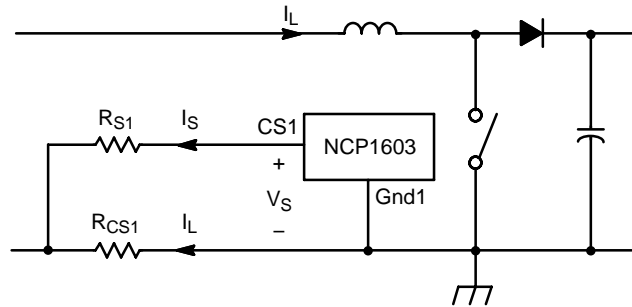

Figure 64. Current Sense in PFC Section
The PFC section senses the inductor current I_L by the current sense scheme in Figure 64. This scheme has the advantages of: (1) the inrush current limitation by the resistor, R_{CS1} , and (2) the overcurrent protection and zero current detection implemented in the same pin.
Inductor current I_L passes through R_{CS1} and creates a negative voltage. This voltage is measured by a current I_S flowing out of the CS1 pin (Pin 11). CS1 pin has an offset voltage V_S . This offset voltage is studied in the setting of zero inductor current $I_{L(ZCD)}$ and the maximum inductor current $I_{L(OCP)}$ (i.e., overcurrent protection threshold). A typical variation of offset voltage V_S versus sense current I_S is shown in Figure 35. Based on Figure 64, Equation 20 is derived.